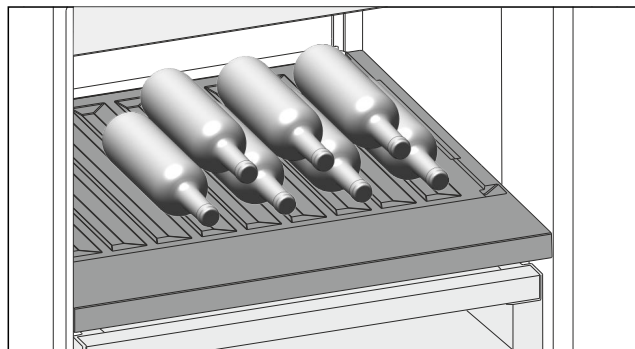

Fig. 150 Example illustration
- ▶ Place bottles in the back row with their bases against the back wall. (see Fig. 150)